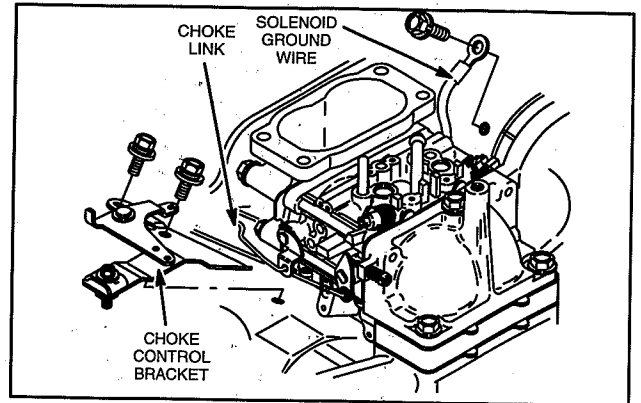

Fig. 75 – Remove Choke Control Bracket
6. Remove choke control bracket and disconnect link, Fig. 75.